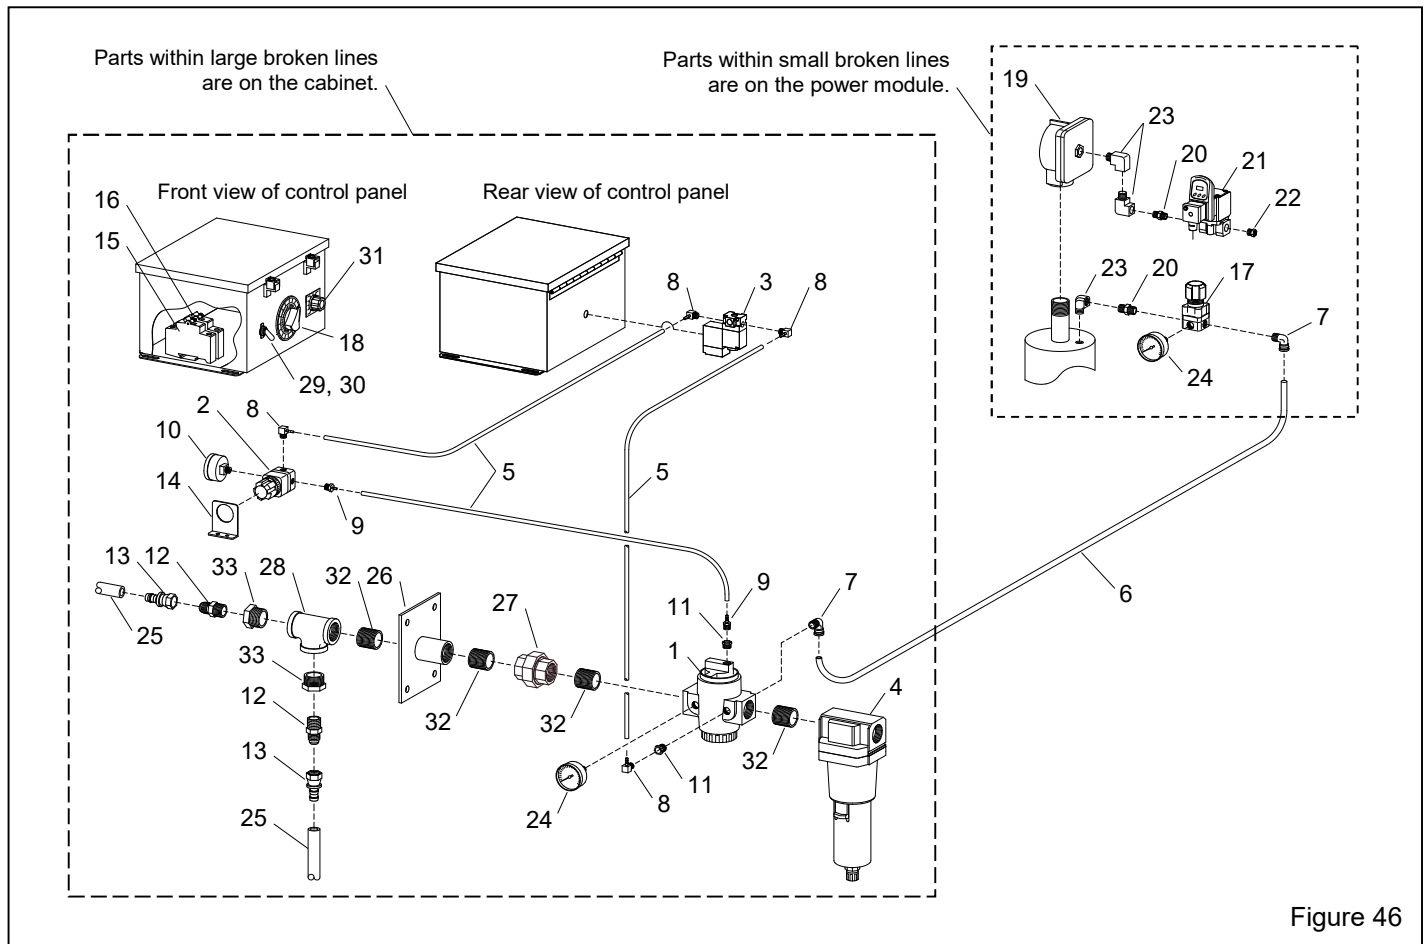

Figure 46
9.6 Pneumatic and Electric Controls – Figure 46